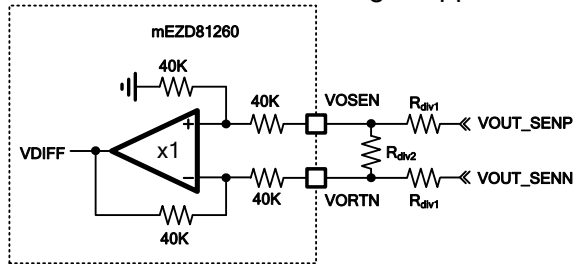

Figure 2. Output Divider Connections when Remote Sense is Applied
When $V_{OUT} > 1.52V$, the output voltage must be divided to the reference voltage within 0.25-1.52V. Figure 2 shows the typical connections for $V_{OUT} > 1.52V$ and remote sensing is applied.
V_{OUT_SENP} and V_{OUT_SENN} are from the load and must be routed as a differential pair on quite areas. Use equation (2) to calculate the voltage divider ratio in Figure 2.